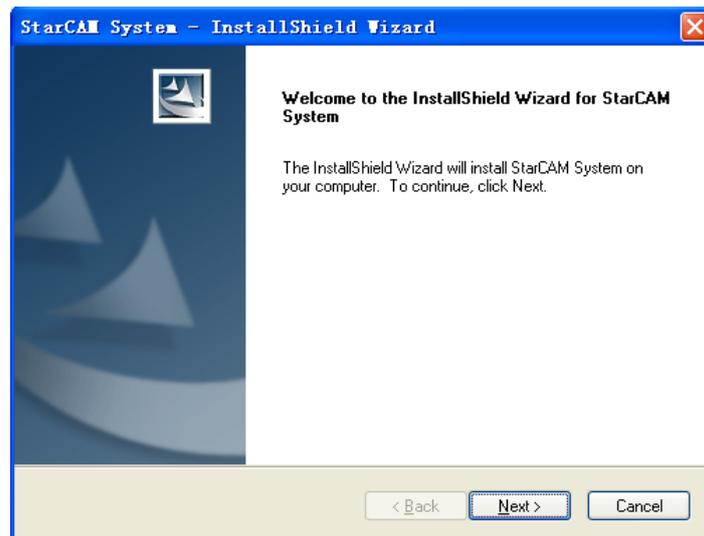

Figure 1
1. Double click the file of Setup.exe in the root directory of optical disk, and enter Figure 1 to start installation.